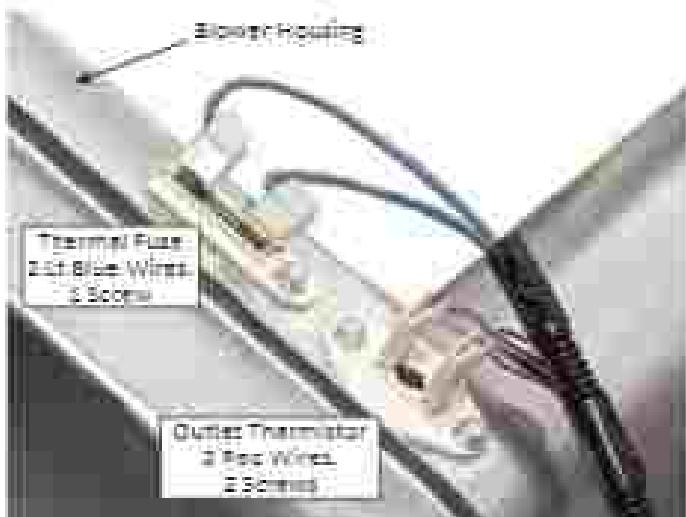

Figure 2 - Thermal Fuse & Outlet Thermistor
3. Disconnect the two wire connectors from the thermal fuse or outlet thermistor terminals (see Figure 2).
4. Remove the screw(s) from the thermal fuse or outlet thermistor and remove the component from the blower housing (see Figure 2).